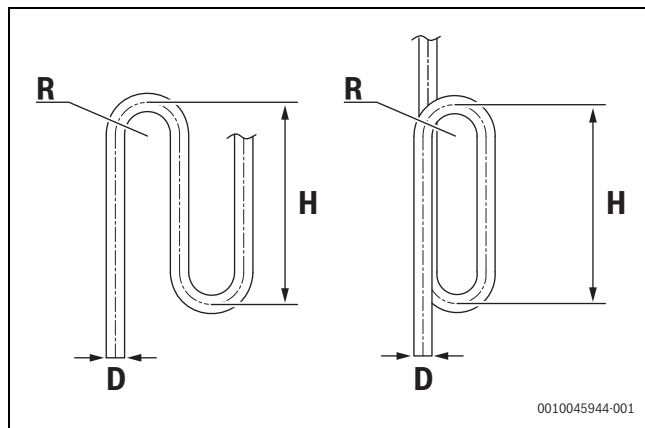

Fig. 10
- ▶ When the outdoor unit is above the indoor unit, and the level difference exceeds 20 m , it is recommended that an oil return bend is set up at every 10 m interval on the gas pipe of the main piping. The recommended specifications of the oil return bend are as shown in figure 10.
The largest level difference between indoor unit and outdoor unit should not exceed 110 m (if the outdoor unit is above) or 110 m (if the outdoor unit is below). Additionally: (i) If the outdoor unit is above and the level difference is greater than 20 m, it is recommended that an oil return bend with dimensions as specified in Figure 10 is set every 10 m in the gas pipe of the main pipe; and (ii) if the level difference is more than 40m (outdoor unit is below) or 50m (outdoor unit is above), the size of the main pipe (L1) should be increased (Table 11).
The largest level difference between indoor units should not exceed 40m (Figure 10).